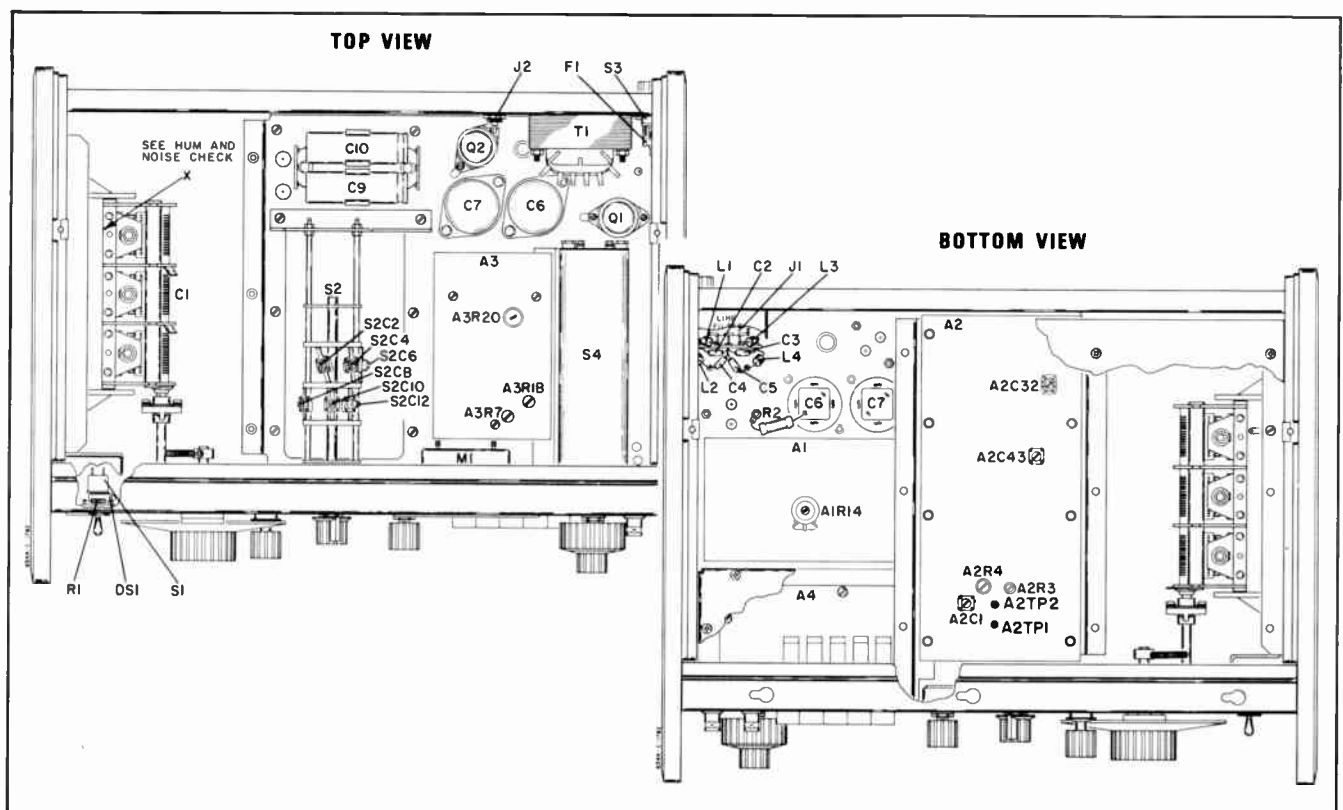

Figure 5-14. Location of Internal Adjustments
- d. Remove the 654A top cover: insert a screwdriver between the tuner capacitor (point X on Figure 5-14) and chassis ground. The residual hum and noise indicated on the ac voltmeter should be greater than 70dB below the 0dB reference.
be performed only if it has been determined by the Performance Checks that the 654A is not meeting its specifications. Figure 5-14 shows the location of all internal adjustments.
5-48. The frequency calibration set-up is shown in Figure 5-14 (do not make the set-up at this time); the frequency should be continuously monitored at the rear panel COUNTER OUTPUT. Table 5-2 lists the accuracy required at each check frequency; adjustments for each range are listed in Table 5-4. Components located on the FREQUENCY RANGE switch (S2) are identified on the switch drawing of Figure 7-2.